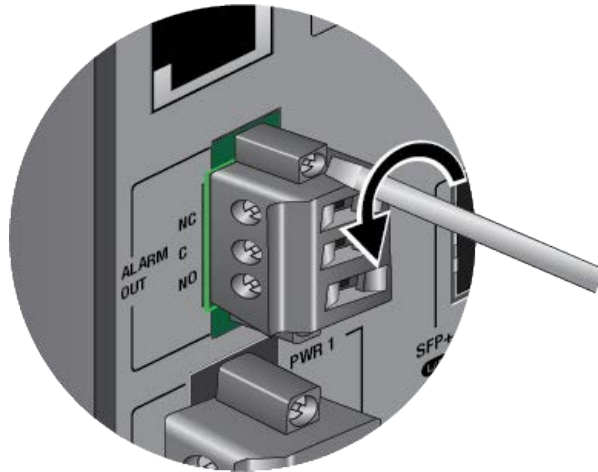

Figure 41. Loosening the Captive Screws on the Alarm Out Plug
3. Loosen the two captive screws securing the Alarm Out plug to the switch. Refer to Figure 41.